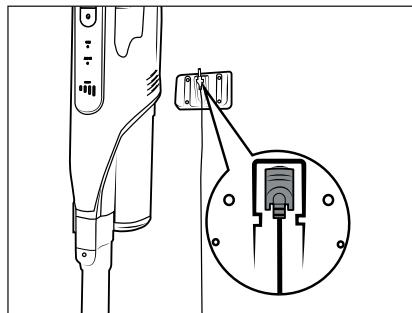

Fig. 6
- The battery indicator 26 starts flashing and the charging process starts (see Fig. 6 and 7).